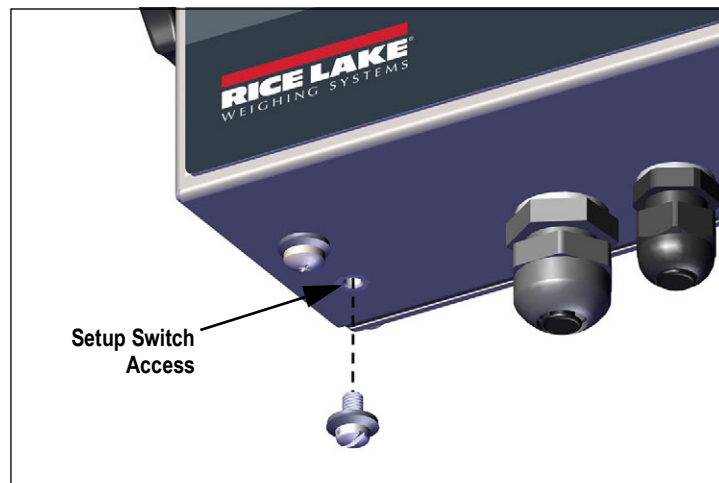

Figure 4-1. Setup Switch Access
1. Access setup mode by pressing the setup switch (Figure 4-1 on page 31). **CONF** displays.